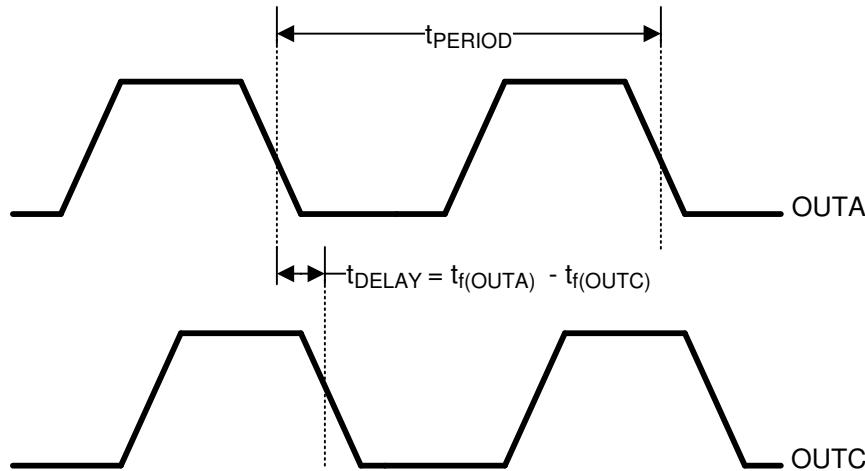

Figure 1. Same Applies to OUTB and OUTD
(2) Output delay is measured between OUTA and OUTB, or OUTC and OUTD. Output delay is defined as shown below where:  $t_f(\text{OUTA})$  = falling edge of OUTA signal,  $t_r(\text{OUTB})$  = rising edge of OUTB signal (see Figure 1 and Figure 2).